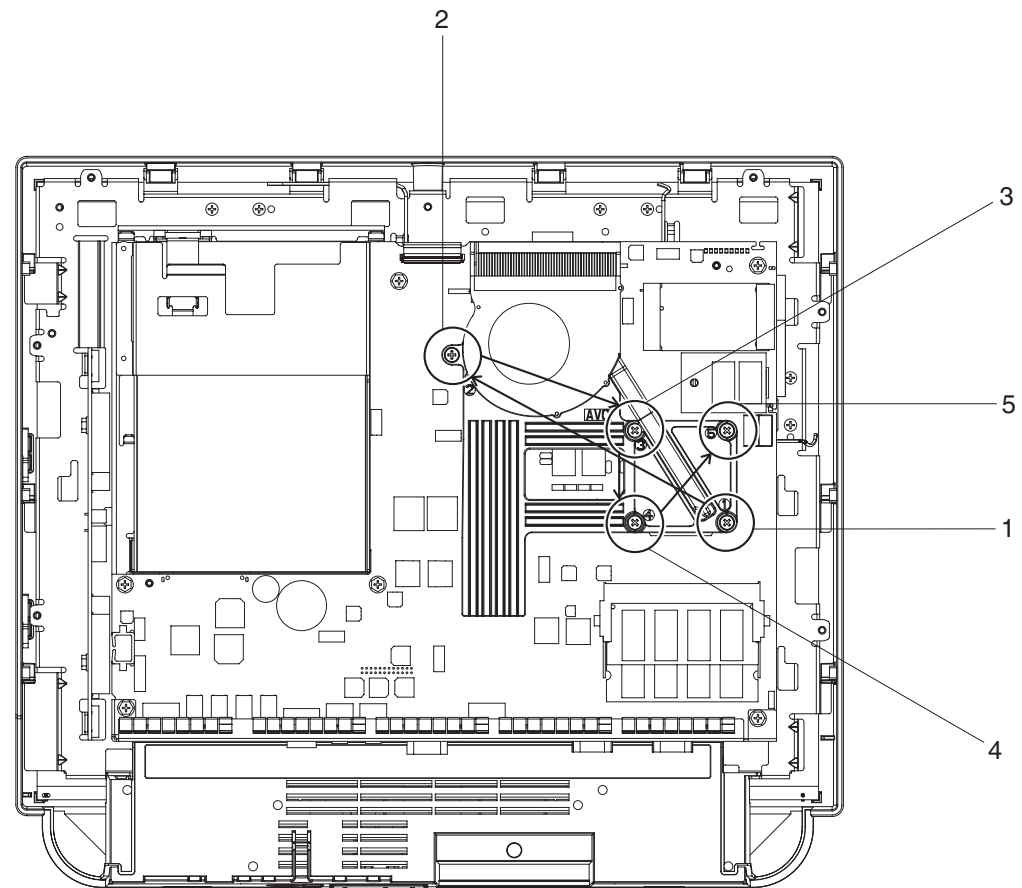

Figure 24. Removing the CPU fan sink assembly
3. See Figure 24 and loosen the 5 screws retaining the heat sink and fan assembly in the order that they are numbered (1 through 5).
2. Tighten the five retainer screws **one turn in the numerical order that is shown beside of each screw**. See Figure 24.